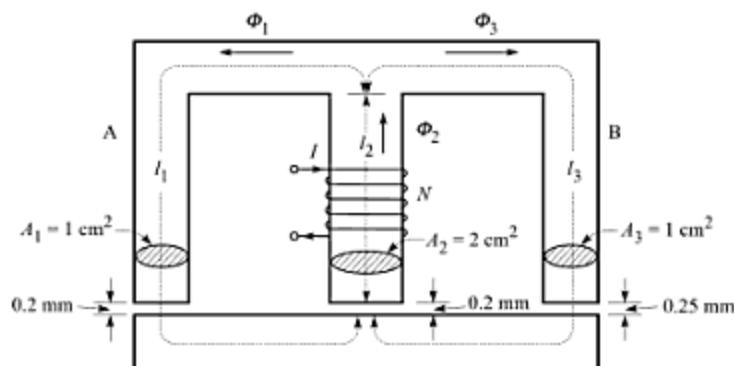

Fig. 6.17
13. The magnetic circuit of Fig. 6.17 is made of cast steel. The central limb having a length of 20 cm and cross-sectional area of 2 cm^2 has a coil of 672 turns wound over it. Each of the outer paths A and B has mean length of 50 cm and cross-sectional area of 1 cm^2 . The three air gaps are 0.2 mm, 0.2 mm